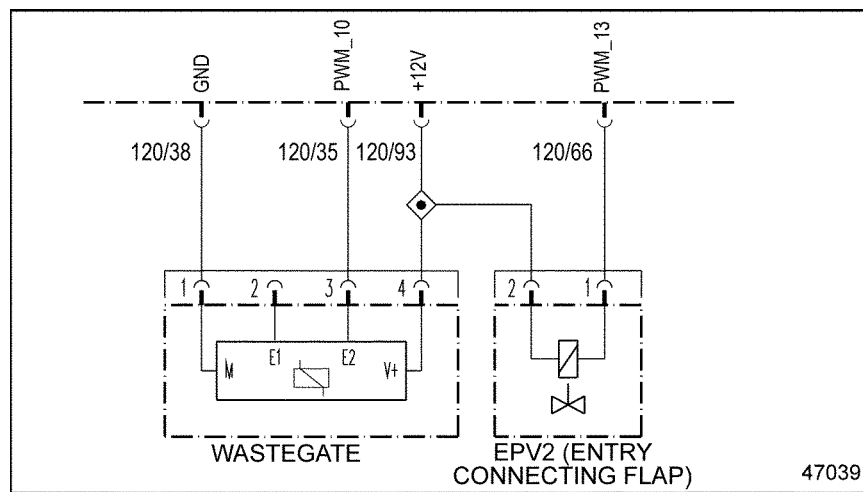

Figure 32-1 EPV2 (Volute) and Wastegate
3. Measure the voltage between pin 1 of the EPV2 connector for the volute valve and ground. See Figure 32-1.